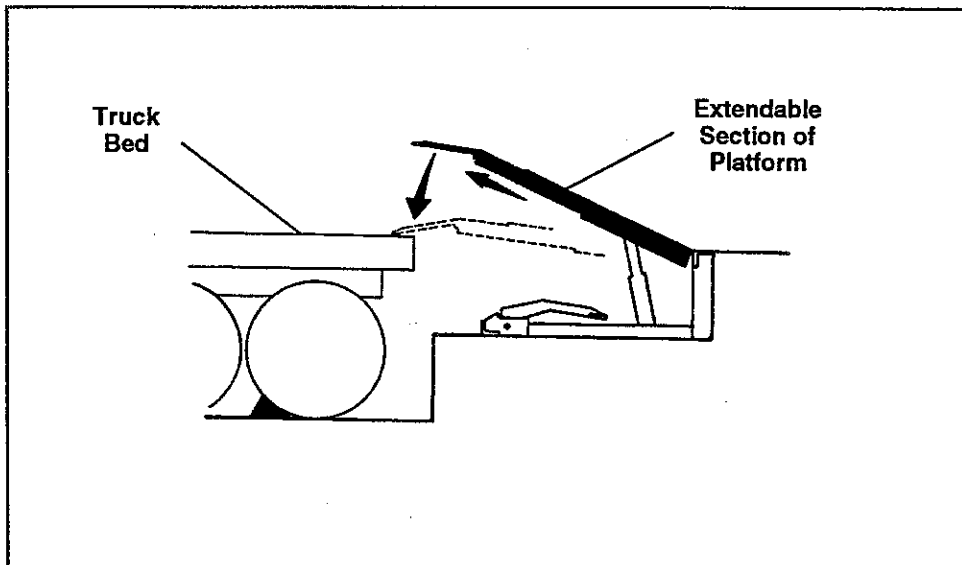

Fig. 6. Extending Platform to Truck Bed
4. Press and hold "EXTEND" button until lip is over back edge of truck bed. See Figure 6.